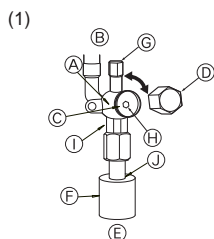

Fig. 4-6
- Liquid side of stop valve (Fig. 4-6)